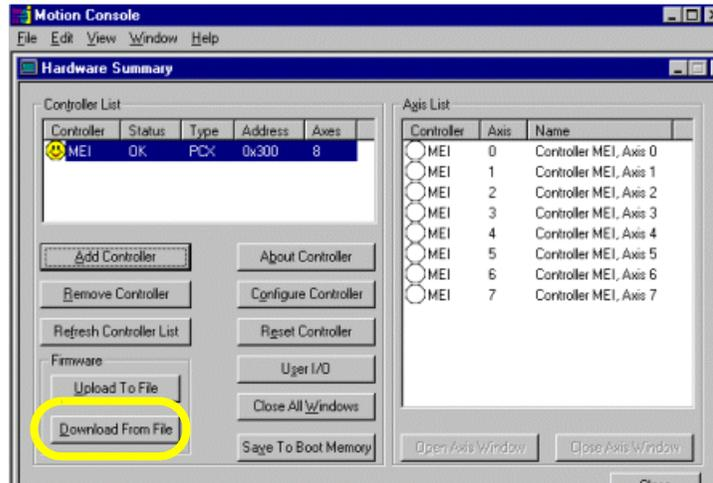

Figure 6-100—Download from file
- 5a) On the Hardware Summary window, select **Download From File**. See *Figure 6-100*.